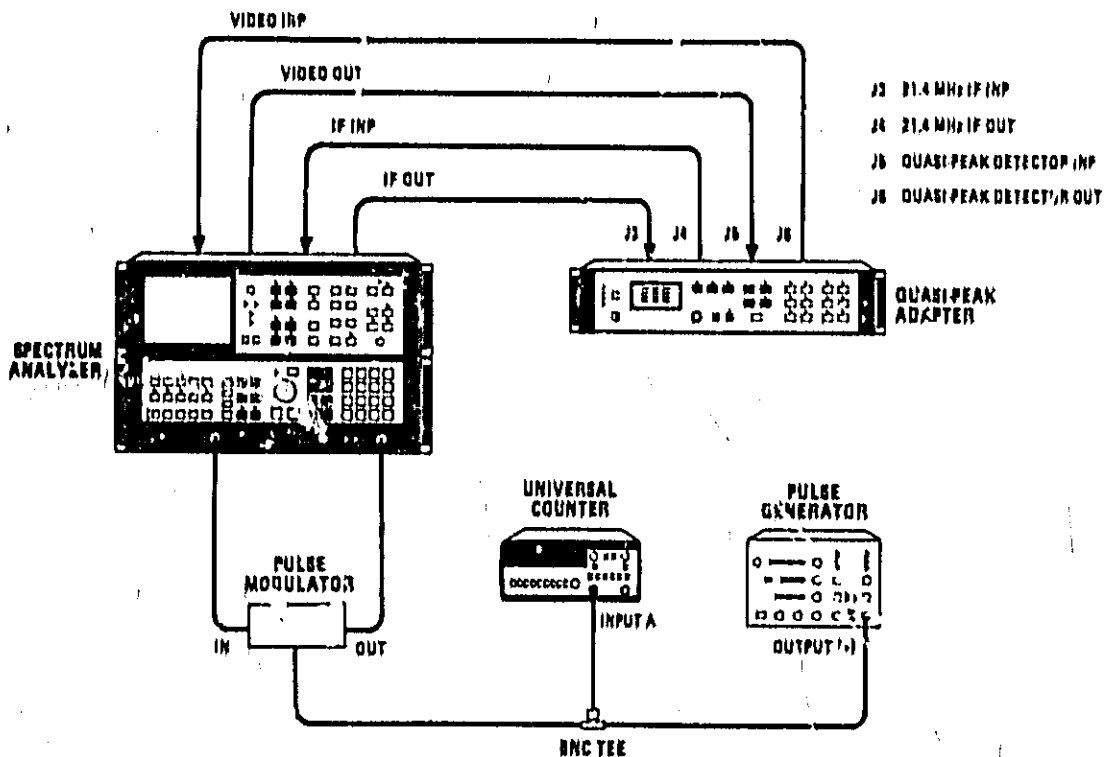

Figure 4-10. 9-kHz Pulse Test Setup
1. Connect equipment as shown in Figure 4-10.